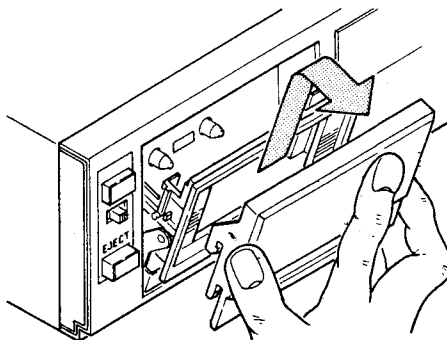

Fig. 16
2. Hold only the cover of the cassette compartment and pull it up. The compartment cover is removed from the front. (Fig. 16)